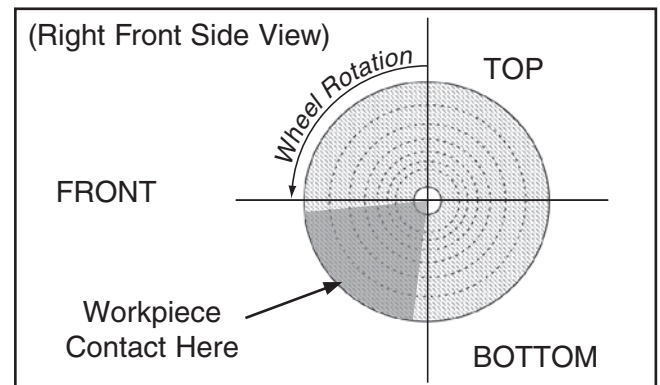

Figure 7. Location where workpiece should contact wheel.
- Only use the area indicated in **Figure 7** to do the actual buffing. Contacting the workpiece on areas outside the correct area may flip the workpiece out of your hands.